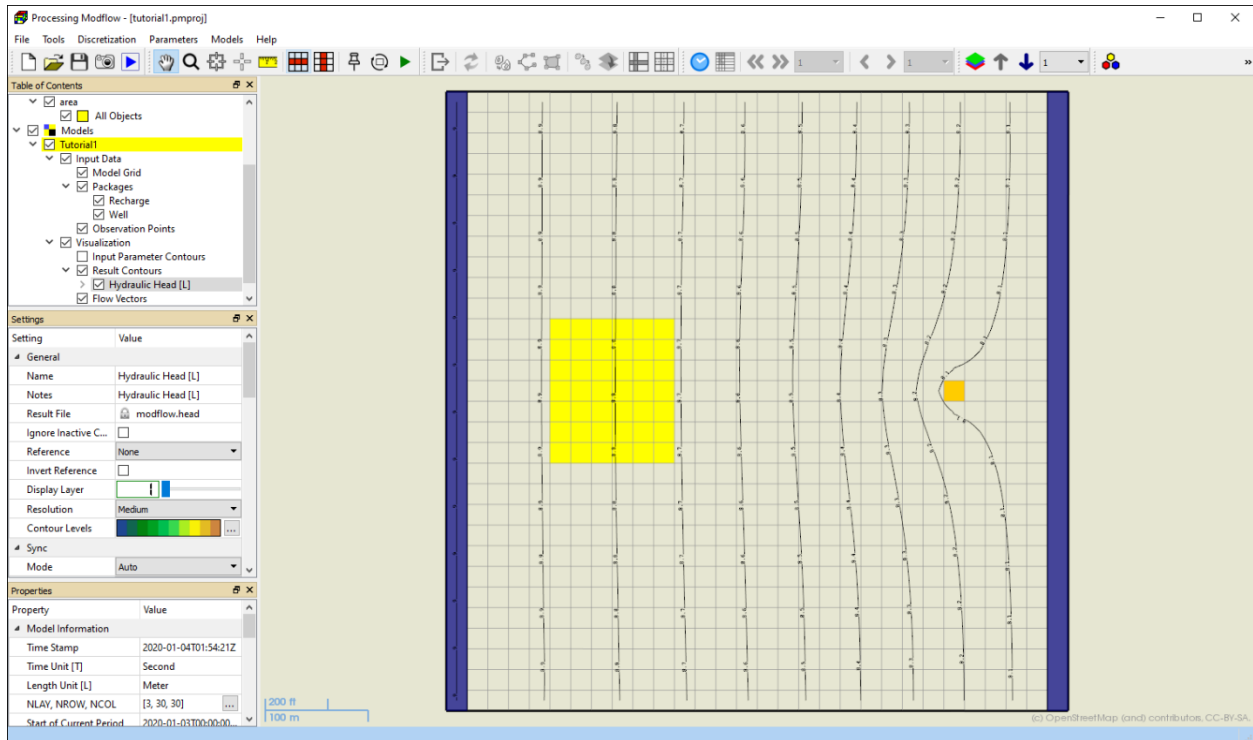

Figure 9. Hydraulic head contours of Layer 1
2. Click OK to accept the default data type “Hydraulic Head” and close the dialog box. PM will add an item, called “Hydraulic Head [L]”, to the TOC, and will display the hydraulic head contours on the Map Viewer. The settings of this item are displayed in the Settings window. The hydraulic head contours in Layer 1 should look like Figure 9.